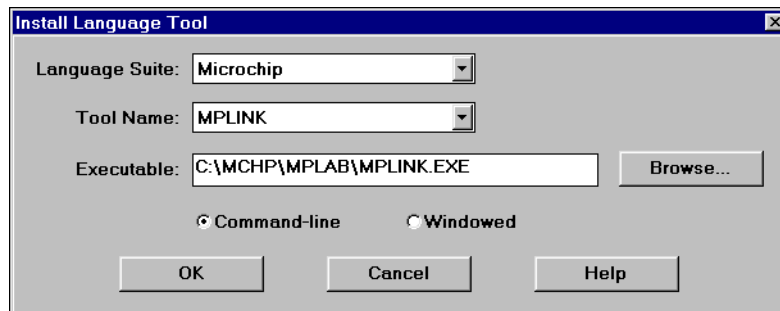

Figure 5.32: Install Language Tool – MPLINK
2. Select *Project > Install Language Tool...* and check that MPLINK is pointing to the `mplink.exe` executable (Figure 5.32). Your executable path may be different from the figure.